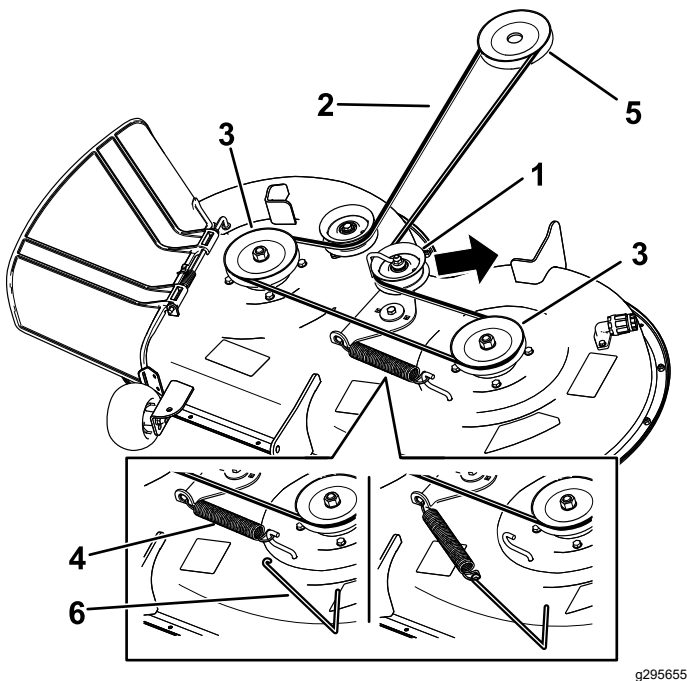

Figure 58
7. Using a spring-removal tool (Toro Part No. 92-5771), remove the idler spring from the deck hook to remove tension on the idler pulley, and roll the belt off the pulleys (Figure 58).
8. Route the new belt around the engine pulley and mower pulleys (Figure 58).
9. Using a spring-removal tool (Toro Part No. 92-5771), install the idler spring over the deck hook and place tension on the idler pulley and the mower belt (Figure 58).